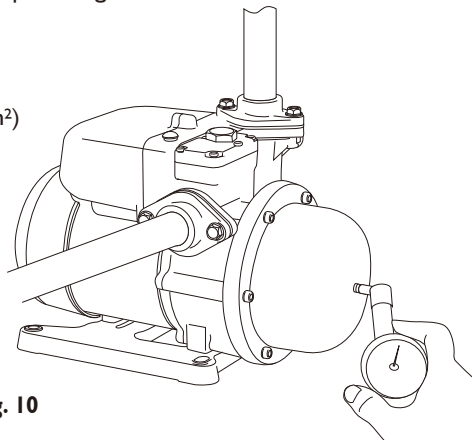

Fig. 10
4. Pressure tank air charge should be checked at regular intervals of every 6 months and after the pump has not been used for a prolonged period. To check the Pressure Tank air pressure, turn off power, open a tap on the discharge line to release pressure from the pump, unscrew the black plastic cover and apply an accurate pressure gauge to the valve as shown in Fig 10.